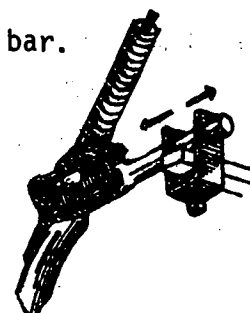

Fig. 3
- b) Adjust the height of the hoes (Fig. 3).